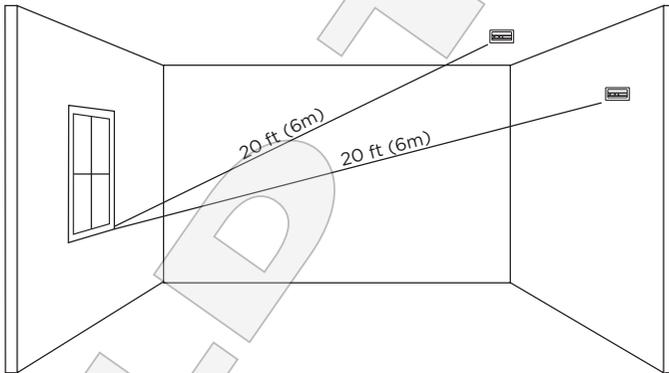

Figure 4: 1128 Detection Range
- On the opposite wall of the window that it's protecting. See Figure 4 for detection range.